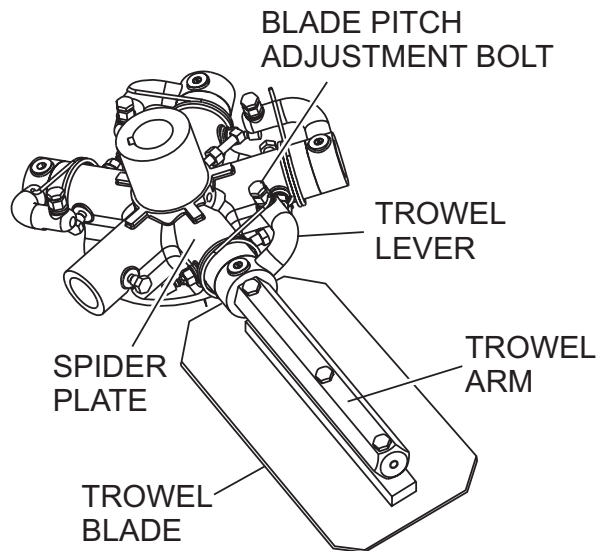

Figure 37. Blade Pitch Adjustment
1. Adjust blade pitch adjustment bolts as necessary to ensure machine operates smoothly (Figure 37).